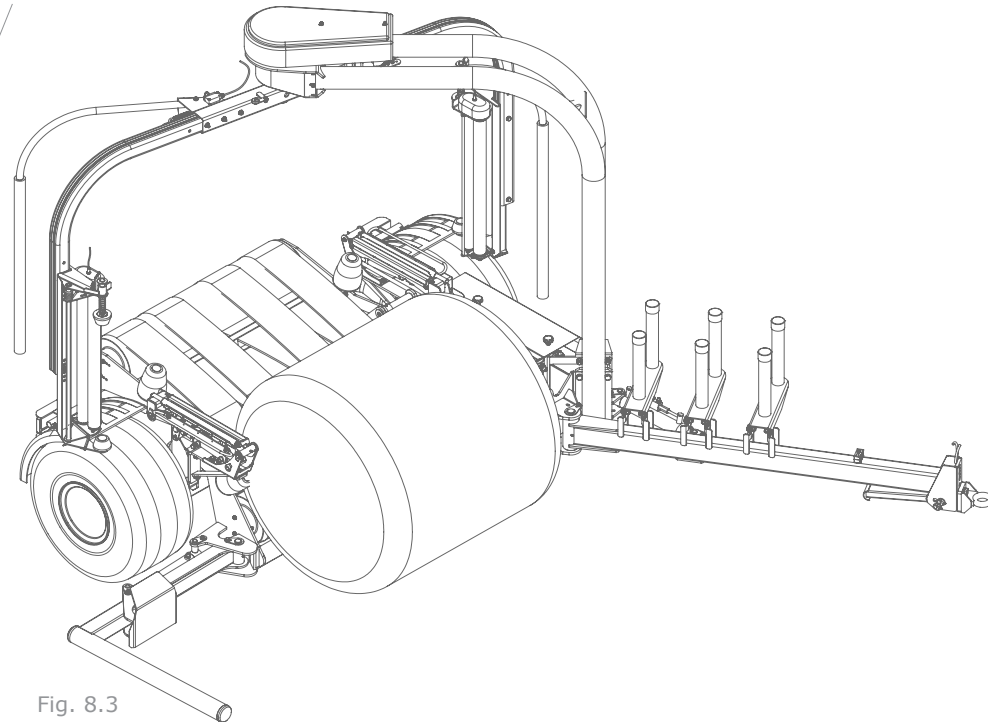

Fig. 8.3
- Drive up to bale, keeping the Bale Guide close to the end of the bale, commence loading when Load Frame cross tube is in contact with the bale (See Fig. 8.3).